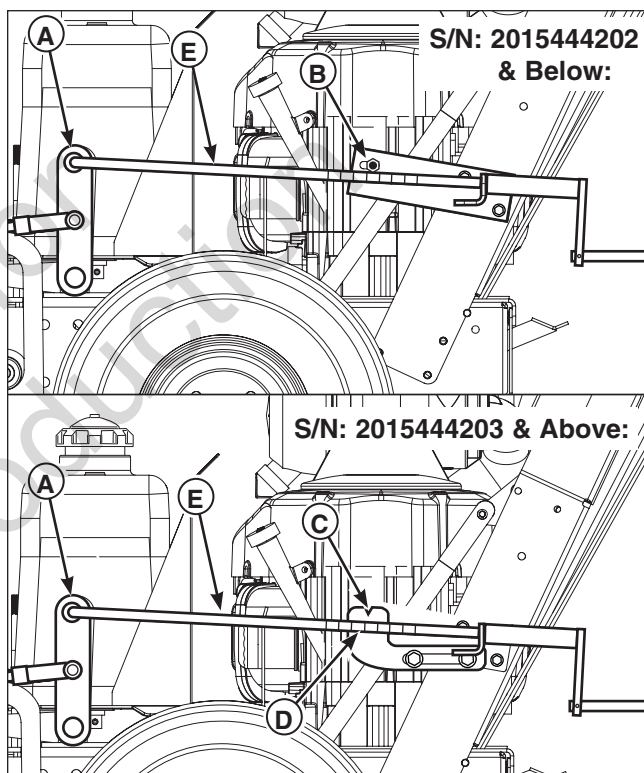

Figure 21. Deck Height Position
2. Crank the deck height adjustment handle so that the rear deck lift rod lever (A, Figure 21) is straight up and down. This is the middle height adjustment.